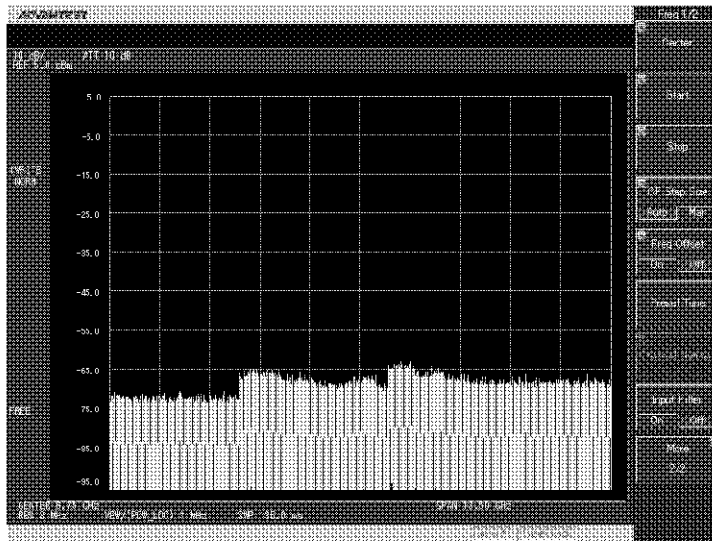

Figure 3-10 Initial Screen
5. The initial screen shown in Figure 3-10 is displayed if no faults are detected in this instrument during the self-diagnostic.
The initial screen display may differ from Figure 3-10 depending on the status of the settings when the power supply was last turned off.